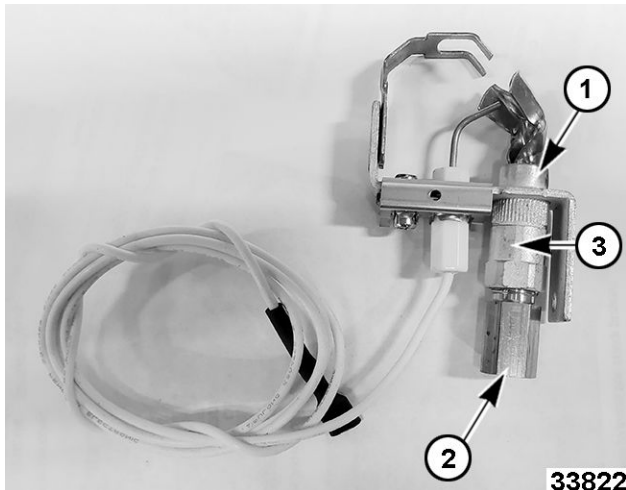

Fig. 58
2ND GENERATION SHOWN IN Fig. 58
- Item 1 in Fig. 58, pilot burner.
- Item 2 in Fig. 58, pilot orifice.
- Item 3 in Fig. 58, pilot tube compression fitting.